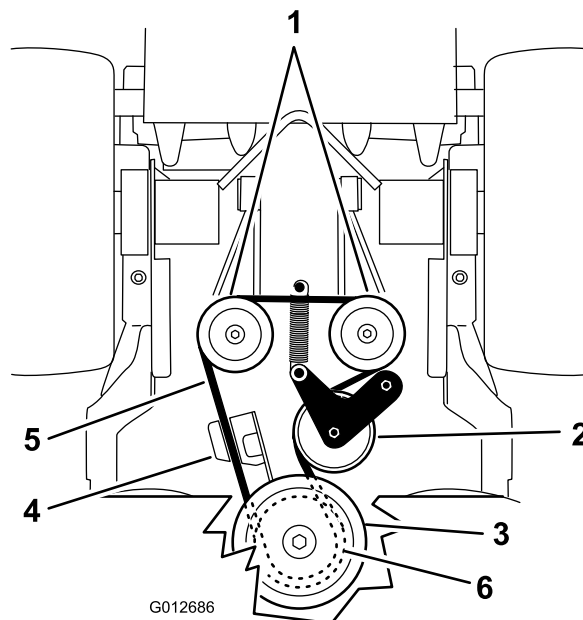

Figure 65
5. Unhook the idler spring from the frame (Figure 65).
7. Install the idler spring to the frame (Figure 65).